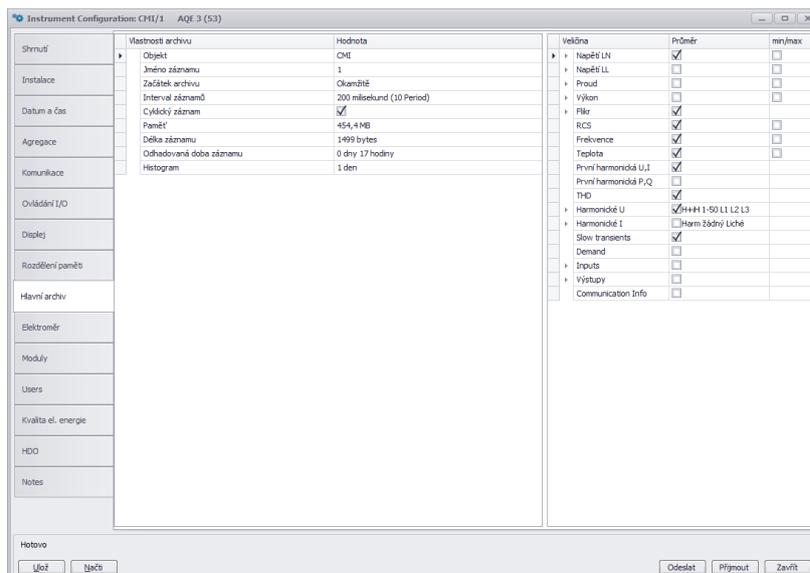

Figure 16: ENVIS.Daq — setting of list of values for main archive.
2.4.7 Setting the main archive (Archive 1, fig. 16).